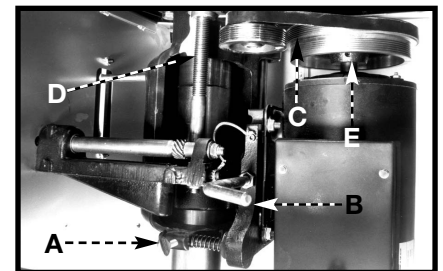

Fig. 23
2. Loosen the thumb screw (A) Fig. 23. Release tension on the belt by moving the lever (B) to the left. Position the belt (C) on the desired steps of the spindle pulley (D) and the motor pulley (E), and apply belt tension by moving the lever (B) to the right. When the desired belt tension is attained, tighten the thumb screw (A).
3. Proper belt tension is approximately a 3/32" deflection when using light finger pressure on the belt between pulleys. **IMPORTANT:** Pulleys (D) and (E) Fig. 23 should always be aligned with each other to provide maximum belt performance and reduce belt wear. To check pulley alignment, refer to section "REPLACING SPINDLE CARTRIDGE".